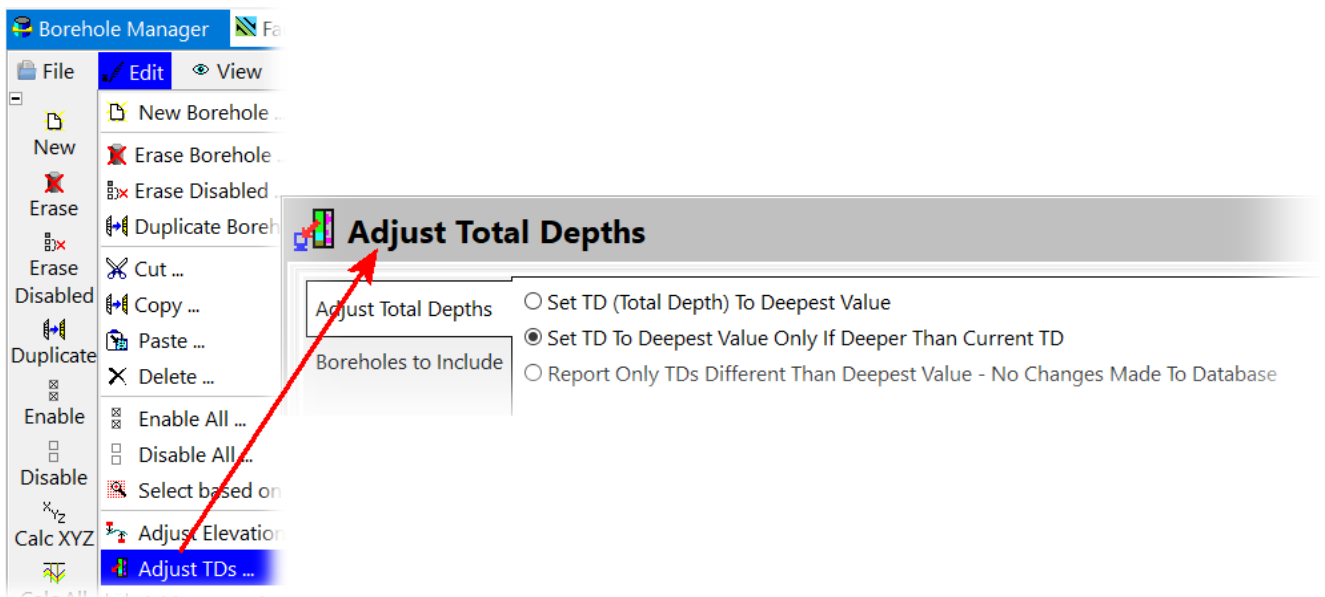

Figure 11
- As new borehole P-Data is added to the database, the TDs for the boreholes can be automatically adjusted by selecting the *Borehole Manager / Edit / Adjust TDs* (Figure 11).